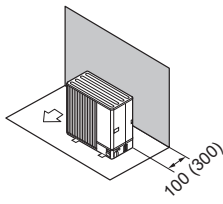

Fig. 1-6
- ① Obstacles at rear only (Fig. 1-6)